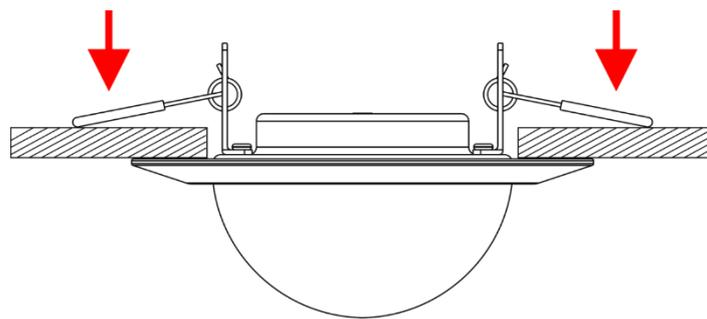

Fig. 06
- 05) Put the PixelDot fully in the mounting opening. The **spring-loaded mounting clips (02)** will release and will hold the PixelDot in position (Fig. 06).